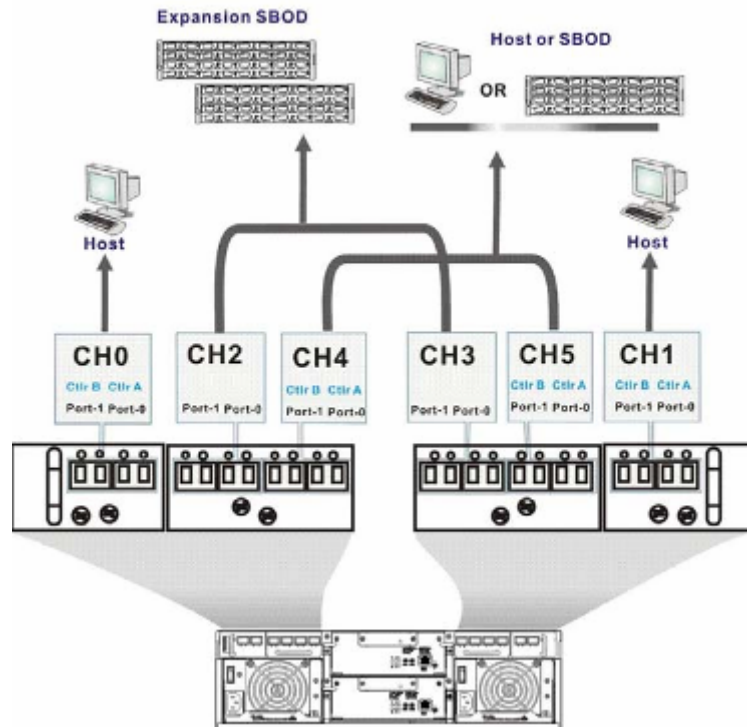

Figure 1-5: 6 Channel Model - Fibre Ports (Redundant-controller)
The X4 subsystem comes with either six (6) or four (4) 4Gbps Fibre channels. Each channel is routed through two (2) SFP ports to provide a total of up to twelve (12) FC ports. (See **Figure 1-5**) Shown below are details of these I/O ports: